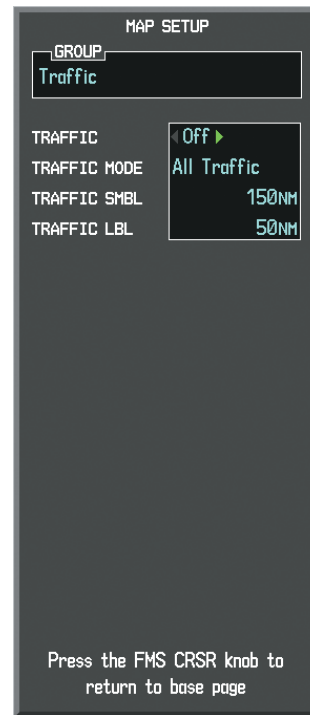

Figure 6-120 Navigation Map Page Setup Menu, Traffic Group
- 5) Turn the large **FMS** Knob or press the **ENT** Key to scroll through the selections (Figure 6-120).